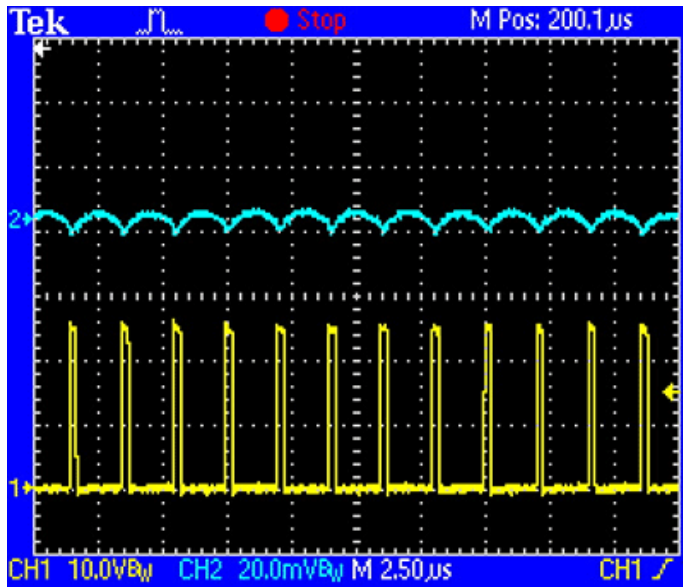
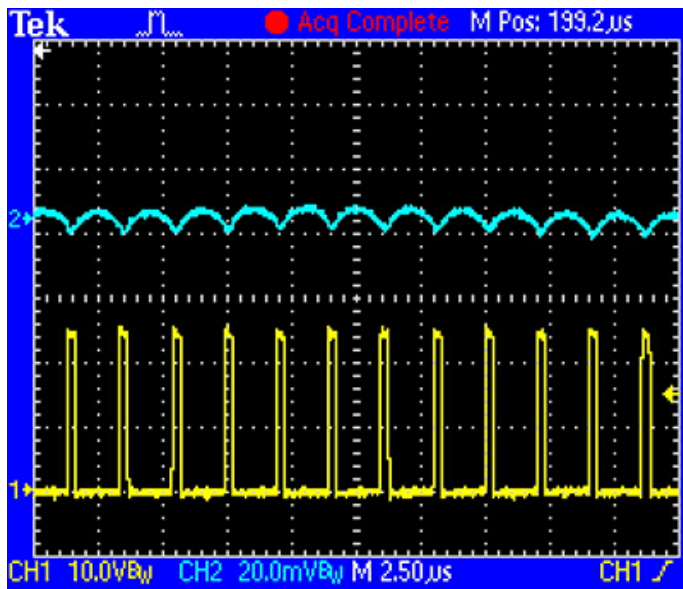

Figure 3. Output ripple at 0mA load.
Figure 4. Output ripple at 300mA load.
**Figure 3** and **Figure 4** display the ripple at no load (ripple is 6mV peak-peak) and 300mA load (ripple is 8mV peak-peak), respectively. Channel 1 in the oscilloscope screen shot is voltage at the LX pin. Channel 2 in the oscilloscope screen shot is